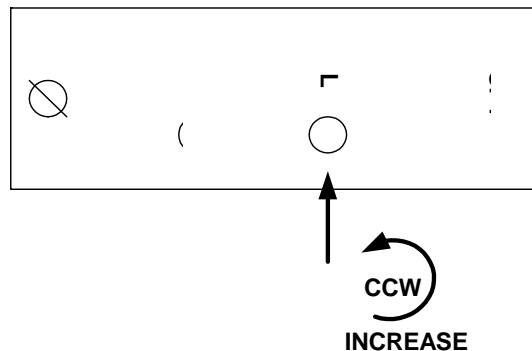

Figure 1-15. Low Channel Adjustment
- p. **Low Channel Adjustment:** (refer to Figure 1-15).